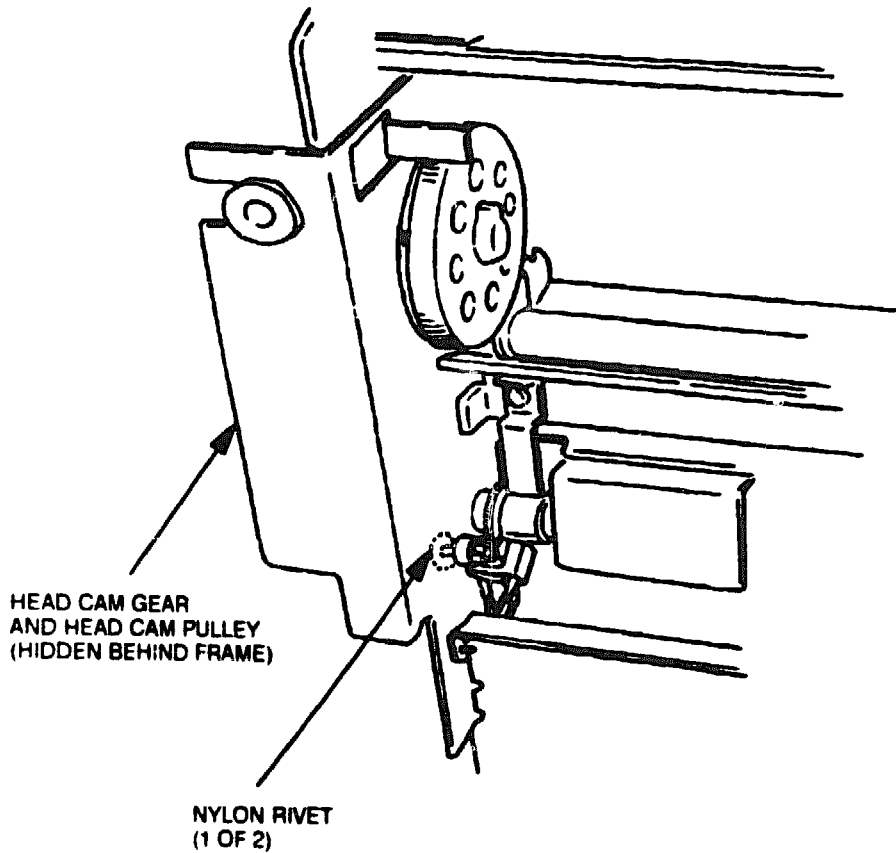

Figure 6-81 RBE Sensor Removal
7. Remove the E retaining rings that secure the head cam gear and head cam pulley assemblies. Using a flat tip screwdriver, remove the two nylon rivets and remove the RBE sensor assembly (see Figure 6-81).